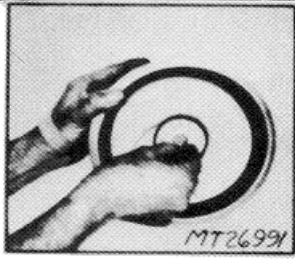
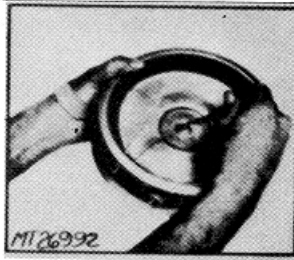

Fig. 13
Fig. 14
4. Remove guide rings and pushrod seal (Fig. 13). The seal can be removed by inserting a small screwdriver behind the seal and carefully pry the seal out of the groove as shown in Fig. 14
6. Position a new guide ring on each side of the seal (Fig. 13). The wider flange side will be away from the seal. Align the skive cuts approximately 180° apart.